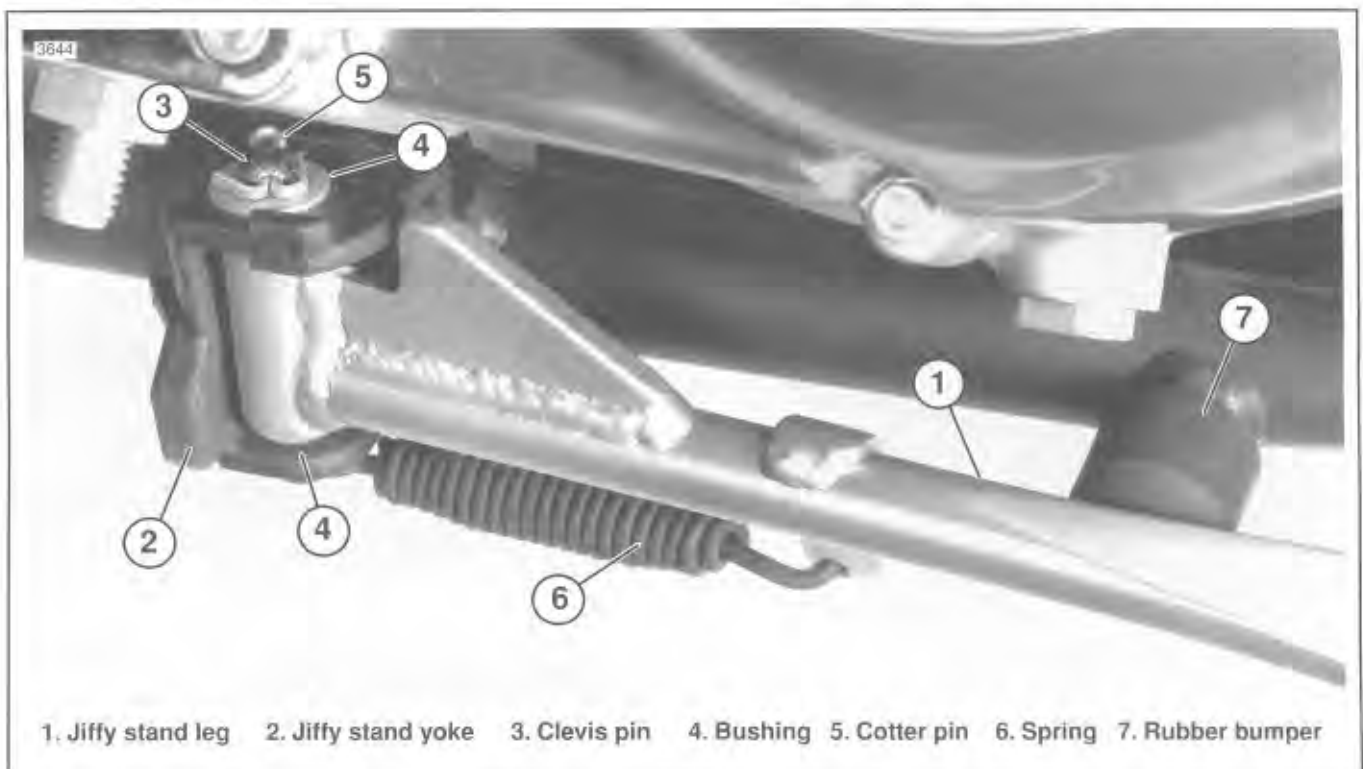
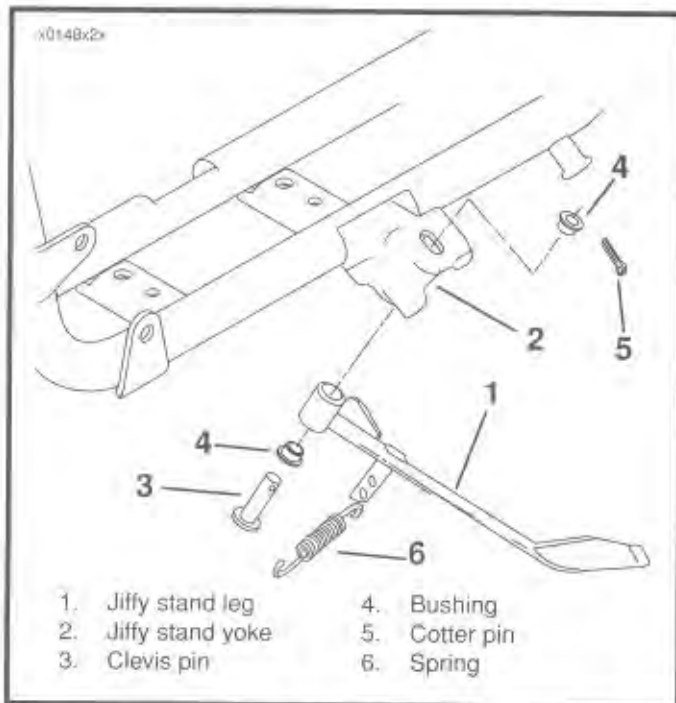

Figure 2-94. Jiffy Stand in Retracted Position
Figure 2-95. Jiffy Stand
2. See Figure 2-94. Remove rubber bumper (7) from frame to permit further retraction of jiffy stand leg (1). Additional spring tension relief allows for easier spring removal.
3. Place jiffy stand leg (1) in retracted position. Remove and discard cotter pin (5).
4. See Figure 2-95. While firmly holding jiffy stand leg (1) in fully retracted position, withdraw clevis pin (3) until it disengages with the upper pivot hole of jiffy stand yoke (2).
5. Detach spring (6) from anchor pin using pliers. Unhook other end of spring from jiffy stand leg (1).
6. Remove clevis pin (3) from lower pivot hole of jiffy stand yoke (2). Remove jiffy stand leg (1). Remove upper and lower bushings (4).
CLEANING AND LUBRICATION (Figure 2-95)
2. See Figure 2-95. Hook either end of spring (6) into spring mounting hole on jiffy stand leg (1). Install loose end of spring over anchor pin.
3. While holding end of spring (6) in groove of anchor pin and holding jiffy stand leg (1) in its retracted position, position pivot end of jiffy stand leg within yoke (2) on motorcycle frame. Insert clevis pin (3) through lower pivot hole of yoke and halfway into pivot hole of jiffy stand leg.
4. See Figure 2-94. Lift jiffy stand leg (1) upward, aligning pivot hole of jiffy stand leg with slotted upper hole of yoke (2). With shoulder down, position bottom bushing (4), over clevis pin (3). Insert clevis pin (3) through holes in jiffy stand leg and yoke.
5. Install upper bushing (4) over end of clevis pin (3) and against upper surface of yoke (2). Insert **new** cotter pin (5) through hole in end of clevis pin. Bend ends of cotter pin apart to secure.
6. Press rubber bumper (7) onto mounting stud on motorcycle frame.
7. Extend and retract jiffy stand leg several times to check for proper operation. In retracted position (up), jiffy stand leg should be securely seated against frame-mounted rubber bumper (7).